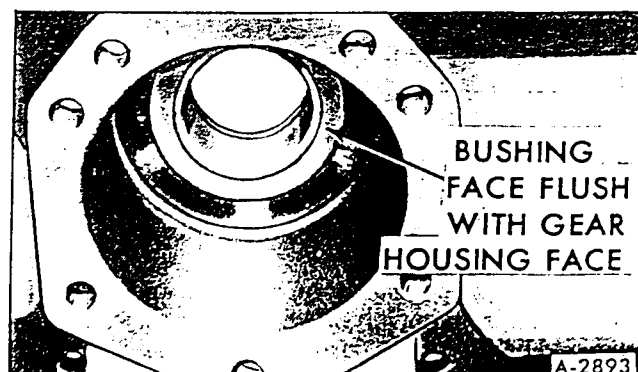

Figure 29 – Bushing Installed in Gear Housing
2. If bushing was removed from gear housing, press bushing into gear housing until inside face of bushing is flush with inside face of gear housing (fig. 29).